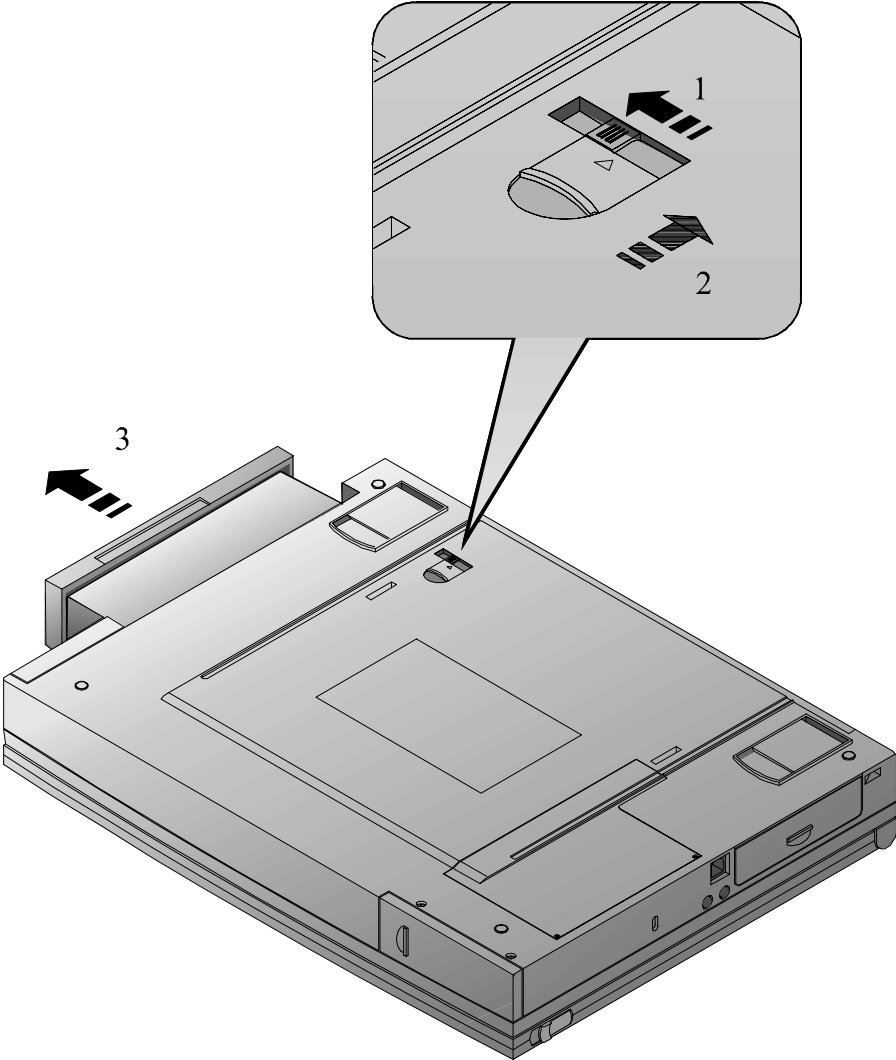

Figure 6-3: Removing the FDD Module
1. Slide the locking button in the direction of the arrow shown in step 1 of Figure 6-3. This will unlock the Module Release latch.
2. Slide and hold the Module Release latch in the direction of the arrow shown in step 2 of Figure 6-3.
3. Holding the Module Release latch in this position, slide the FDDmodule out of the expansion bay. Please see step 3 in Figure 6-3.